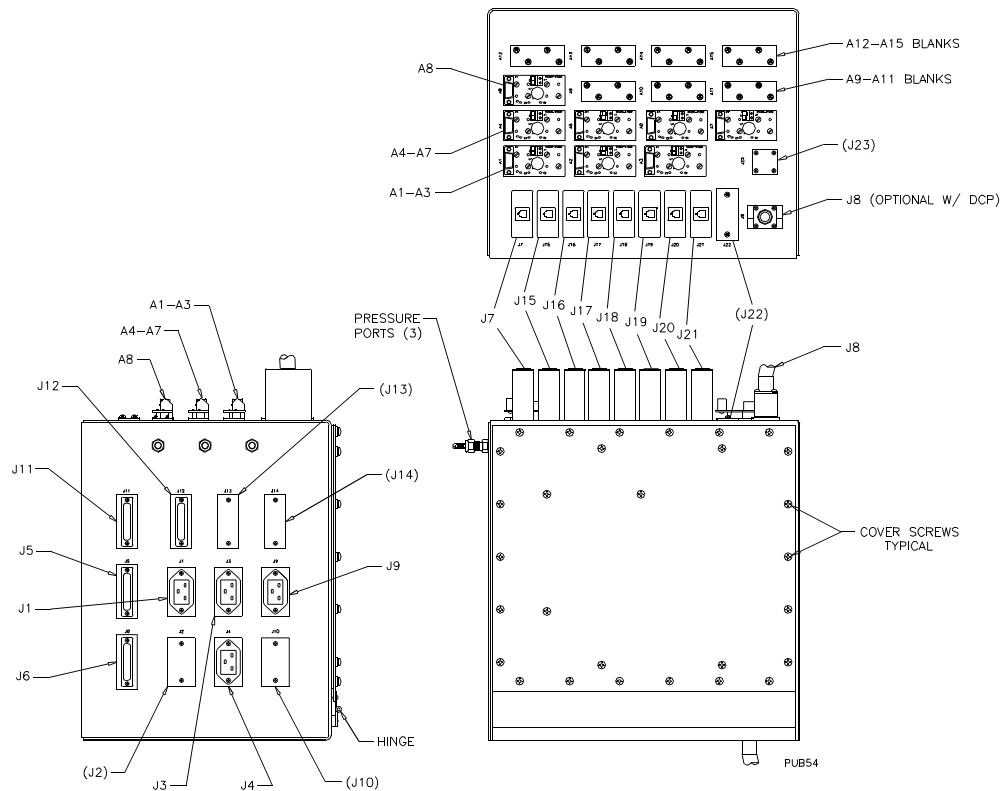

Figure 14.5.3. Faraday Box Assembly A3, Parts Location Diagram
14.5.3.4.4 **Removal and Installation of Faraday Box 7A1A3 Subassemblies.** Figure 14.5.3 identifies connectors and subassemblies of Faraday Box Assembly 7A1A3. The fiberoptic modules are socket-mounted on top of the box. Table 14.5.11 describes Faraday box internal wiring and terminals.